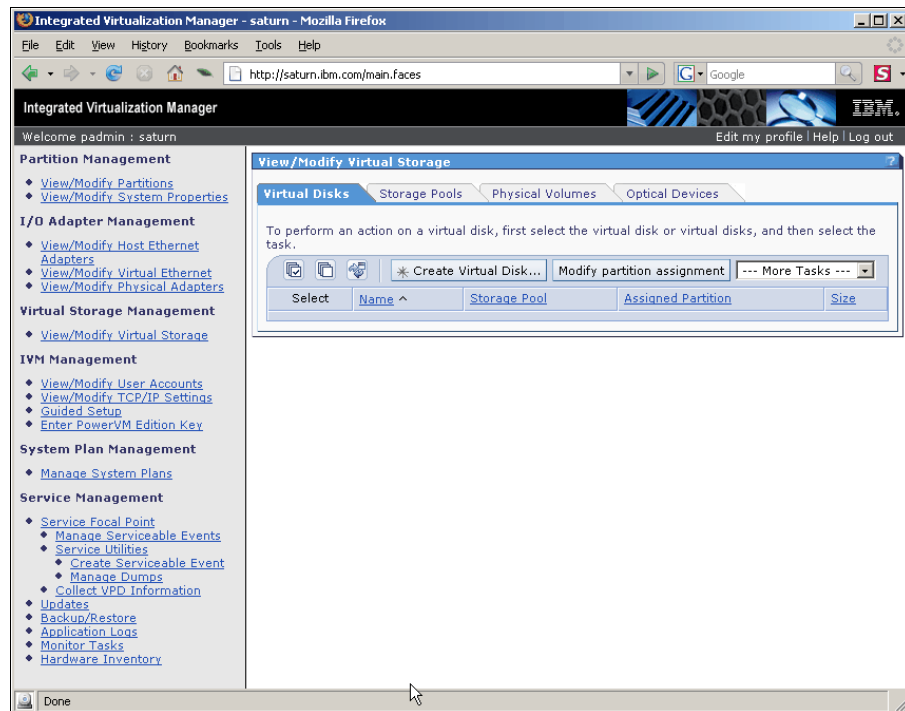

Figure 6-13 View/Modify Storage
3. Verify that you have your storage available to the VIOS. Click **View/Modify Virtual Storage** in the left menu under Virtual Storage Management. See Figure 6-13.